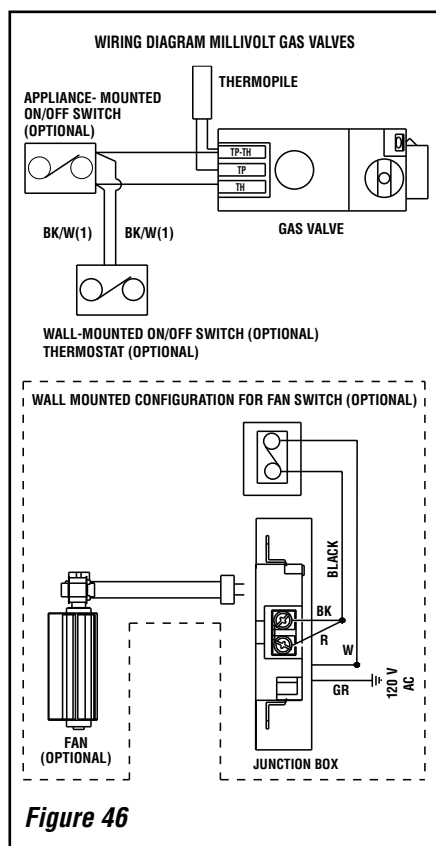

Figure 46
A. Millivolt Wiring (See Figure 46) -